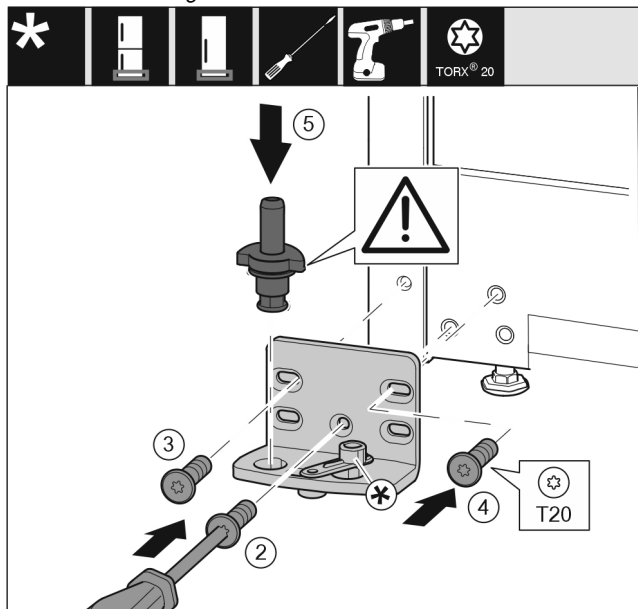

Fig. 48 *
- Place the swap bearing block on the other side and use a screwdriver to screw it on. Start with the screw Fig. 48 (2) at the bottom in the middle.*
- Tighten screw Fig. 48 (3) and screw Fig. 48 (4).*
- Insert the bearing bolt Fig. 48 (5) completely. Ensure that the latching cam is pointing towards the rear.*